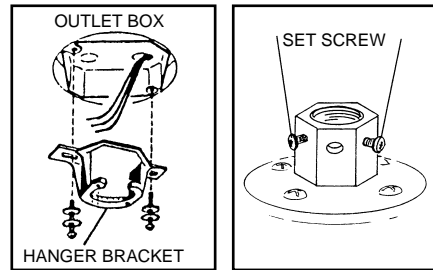

Fig.5
**Step 1.** Secure the hanger bracket to the ceiling outlet box using screws provided with the outlet box and flat washers included with the fan. (Fig. 5) Note: Optional wood screws are provided for mounting of hanger bracket directly to building structure.